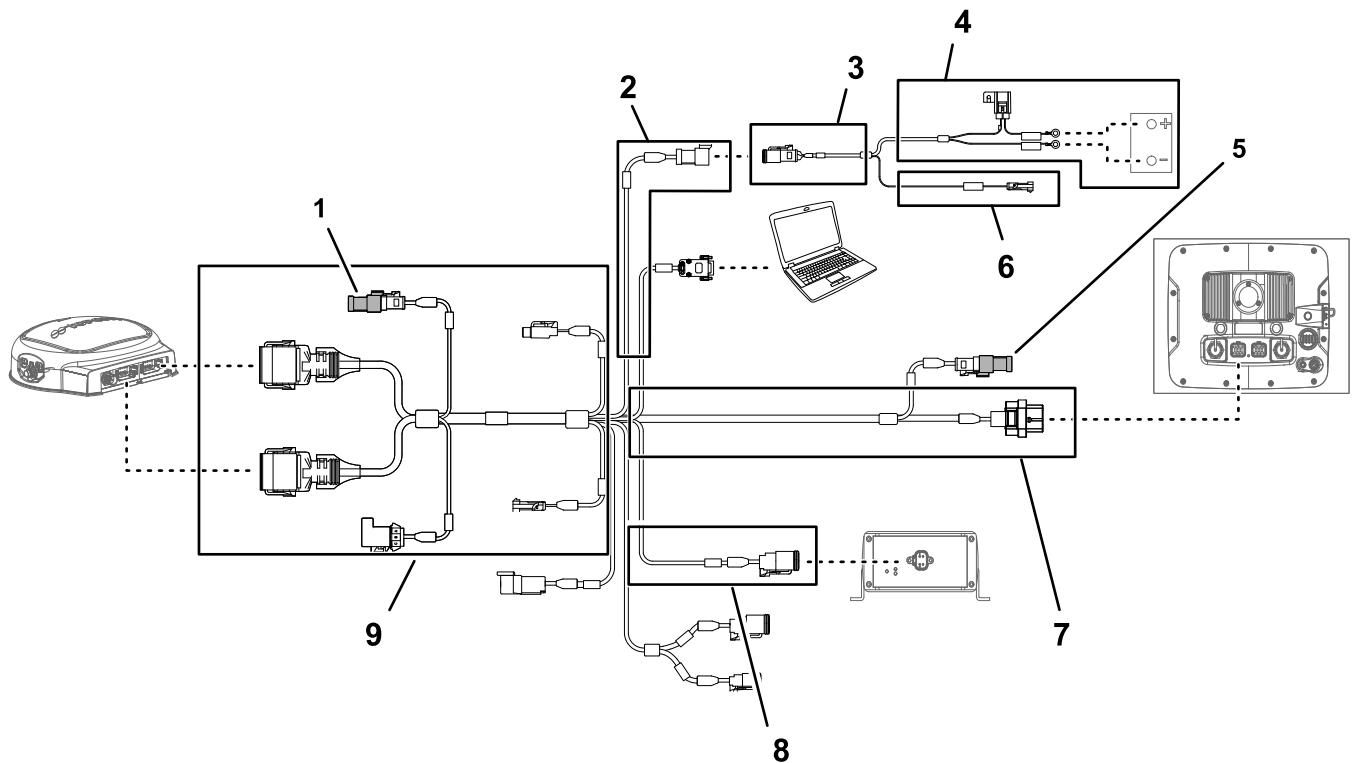
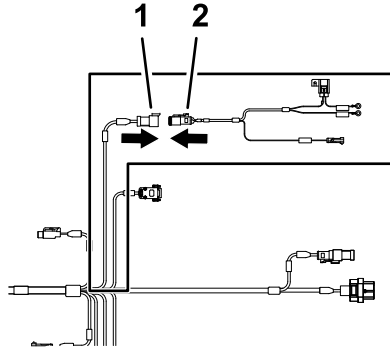

Figure 162
Figure 163
inch) data-harness branch for the navigation receiver (Figure 162).
- If not installed, insert the terminating resistor into the electrical connector at the 220 cm (86-5/8 inch) data-harness branch for the sprayer monitor (Figure 162).
- Connect the 3-socket connector (electrical-power interface) of the navigation-electrical harness to the 3-pin connector (electrical-power interface) of the data harness (Figure 162 and Figure 163).